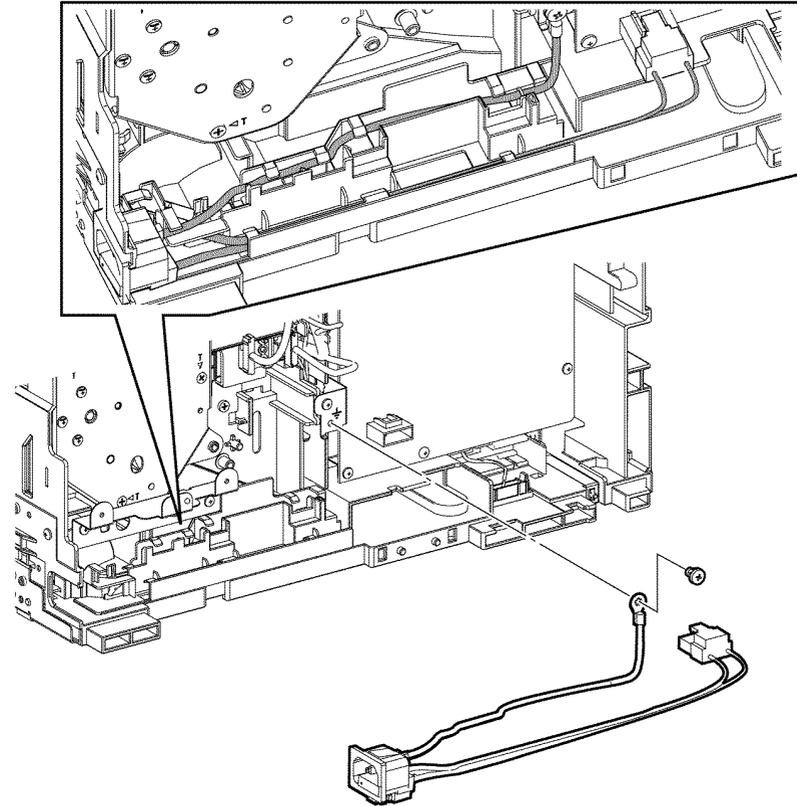

Figure 2 Inlet harness assembly removal
10. Remove one screw (silver, M4, 6mm) that fixes the earth wire. Disconnect P/J200 from the LVPS PWB, then remove the inlet harness assembly, Figure 2.